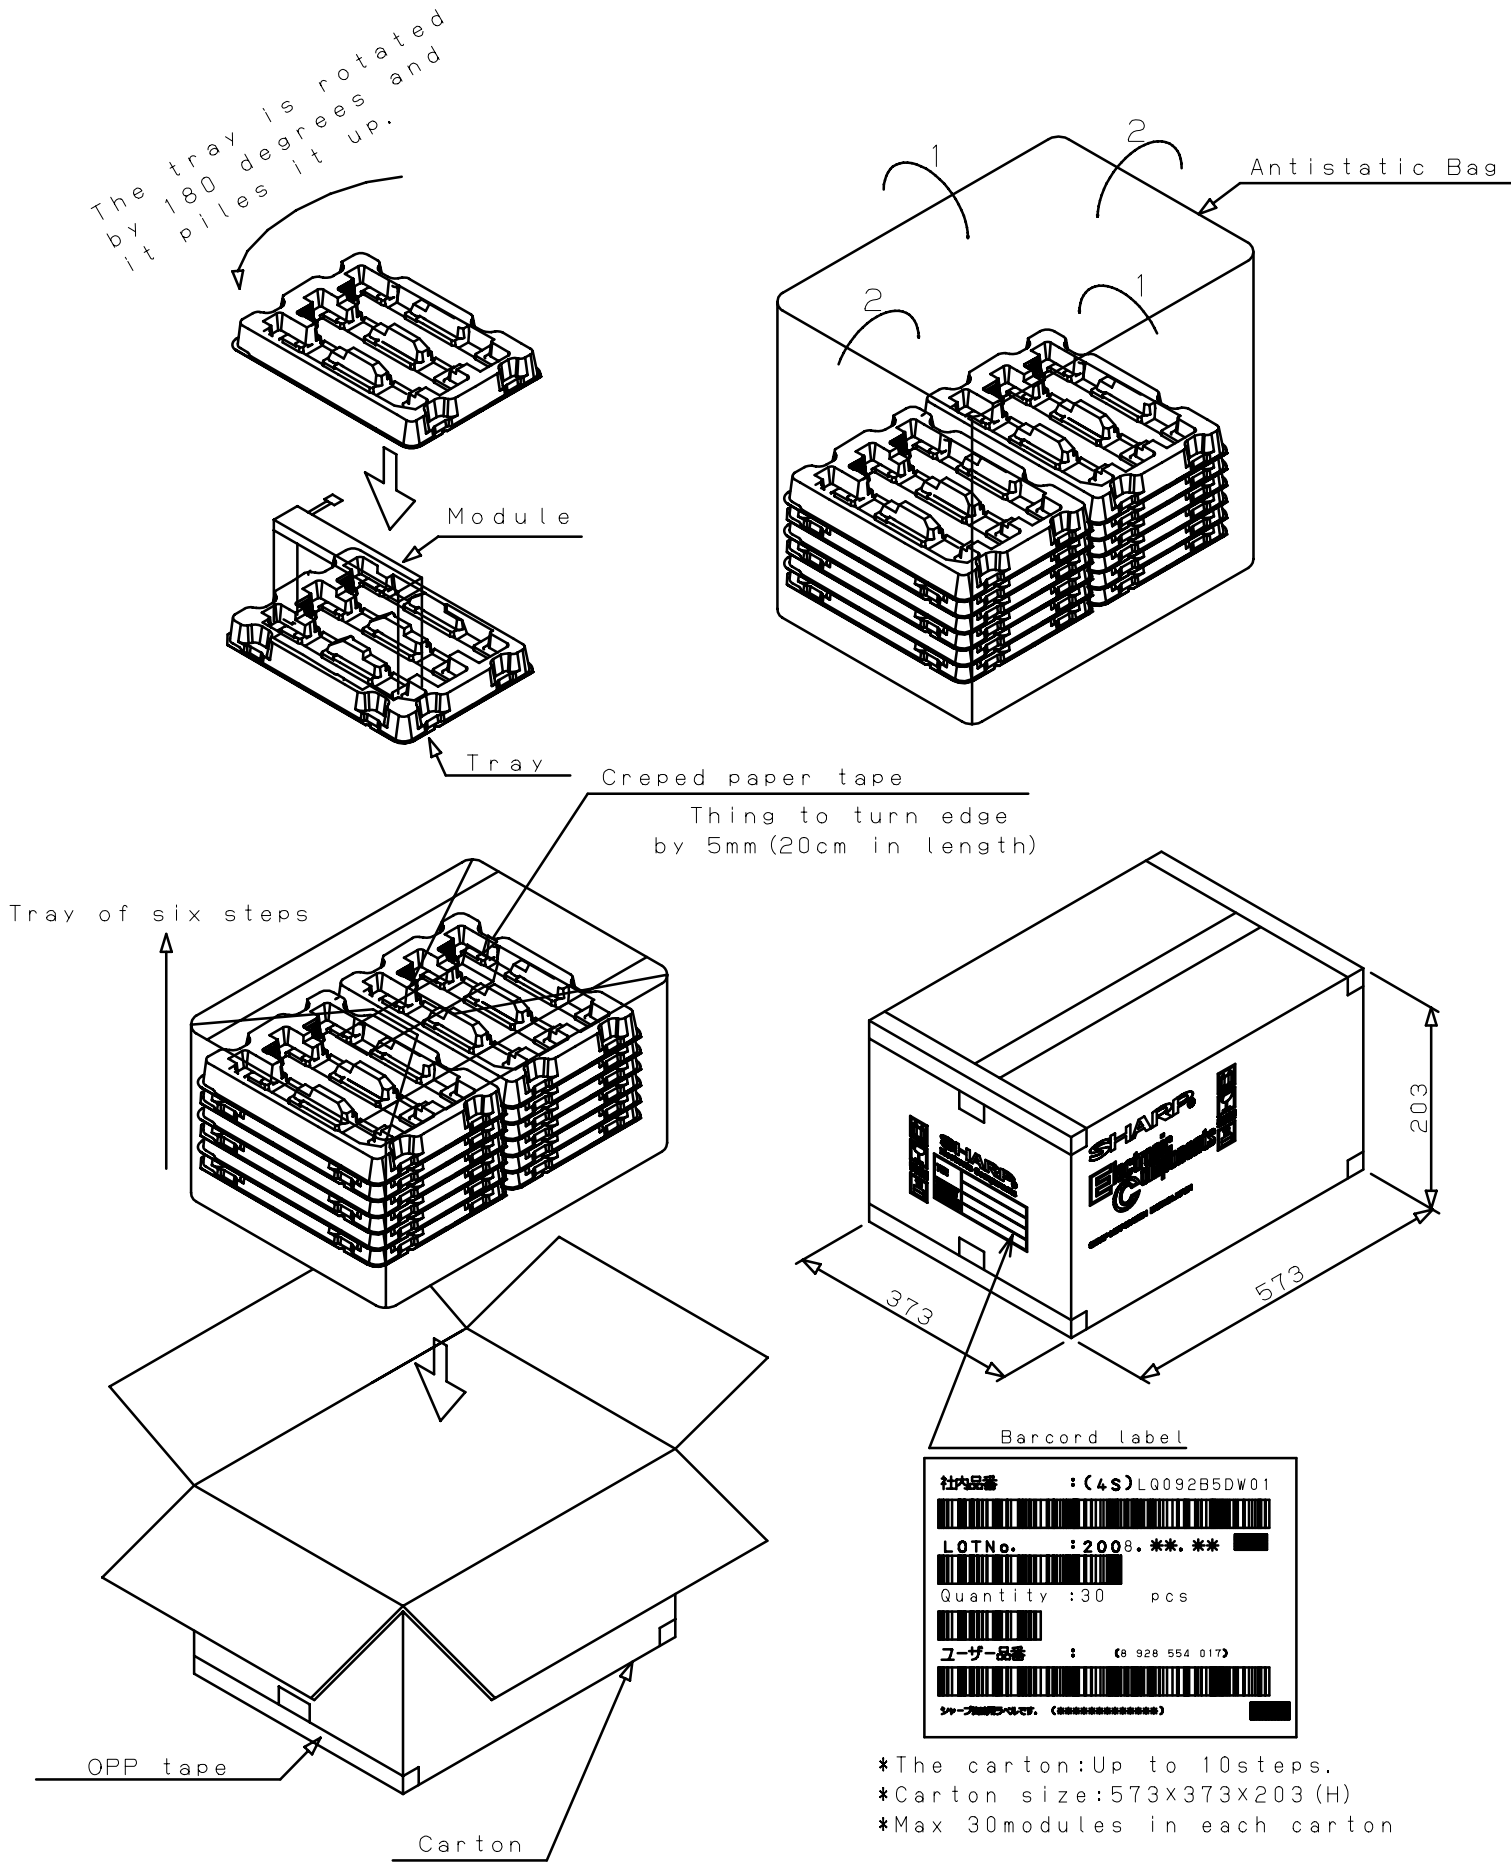

Fig.3 Packing form
- ① Do not expose the module to direct sunlight or intensive ultraviolet rays for several hours or more; liquid crystal is deteriorated by ultraviolet rays.
- ② Store the module at a temperature near the room temperature. If lower than the rated storage temperature, liquid crystal solidifies, causing the panel to be damaged. If higher than the rated storage temperature, liquid crystal turns into isotropic liquid and may not recover.
- ③ If LCD panel breaks, there may be a possibility that the liquid crystal leaks out from the panel. Since the liquid crystal is injurious, do not put it into the eyes or mouth. When liquid crystal sticks to hands, feet or clothes, wash it out immediately with soap.
- ④ Observe all other precautionary requirements in handling general electronic components.
- ⑤ Be careful since image retention may occur when a fixed pattern is displayed for a long time.
**11. Packing form** (See Fig.3)